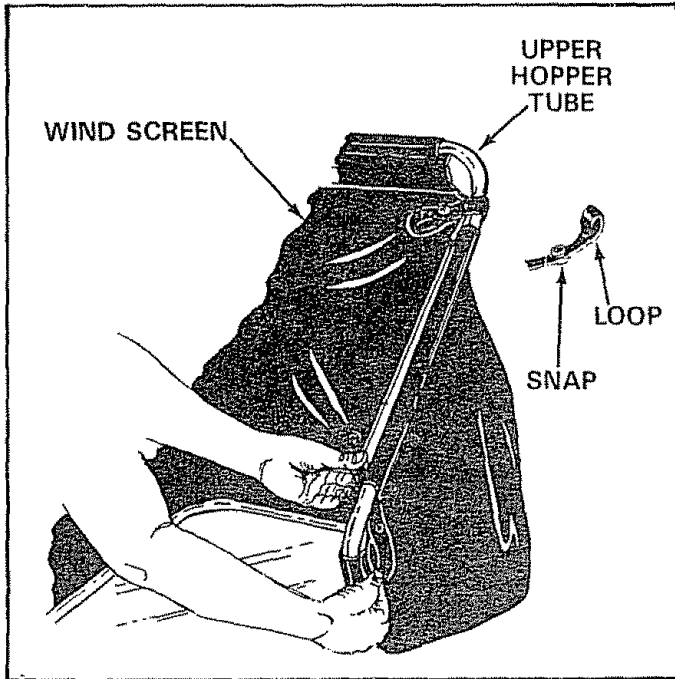

FIGURE 25
17. Assemble the wind screen to upper hopper tube. Pull the four corner loops and snap. See figures 25 and 26.